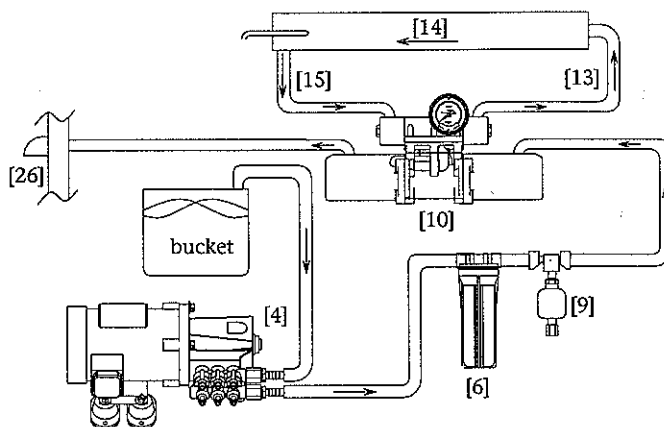

Figure 4.2.1 Illustration of the system's inlet line placed into a bucket.
A. SETUP (REFER TO FIGURE 4.2.1)